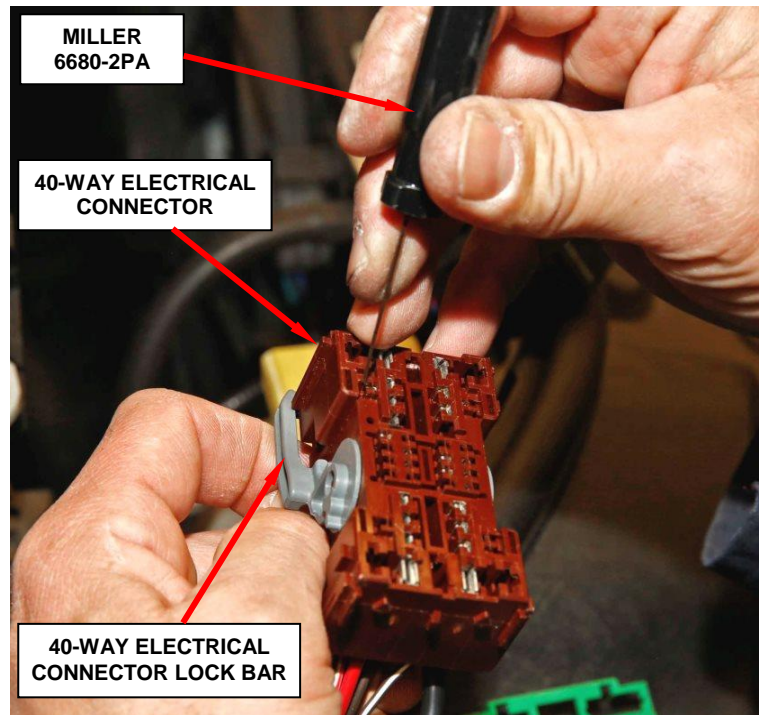

Figure 18 – Remove Pink (with Green Trace) wire from 40-Way Connector
21. Carefully remove the pink (with a green trace) from the 40-way connector (Figure 18).